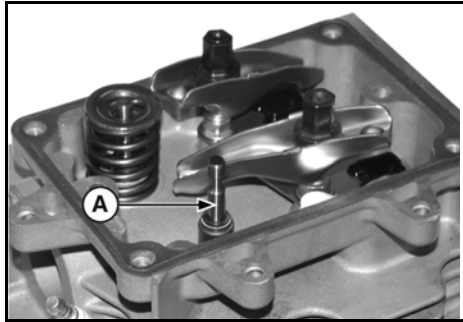

Figure 13
- Oil inside diameter of new stem seal/washer and install on intake valve stem. Slide seal down against head plate or cylinder head (A, Figure 13).